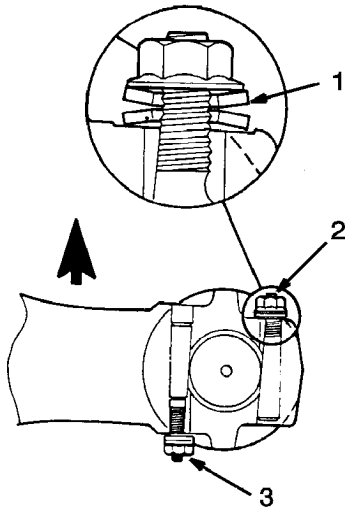

Figure 2 Draw Key Installation
8. Apply chassis grease to the draw key bores and install the new draw keys from the recall kit. Install the top draw key with the threaded end towards the front of the axle and the bottom draw key with the threaded end towards the rear of the axle. Drive the draw keys in completely with a brass drift and hammer. Do not install nuts and washers yet. Reference Figure 2 below.